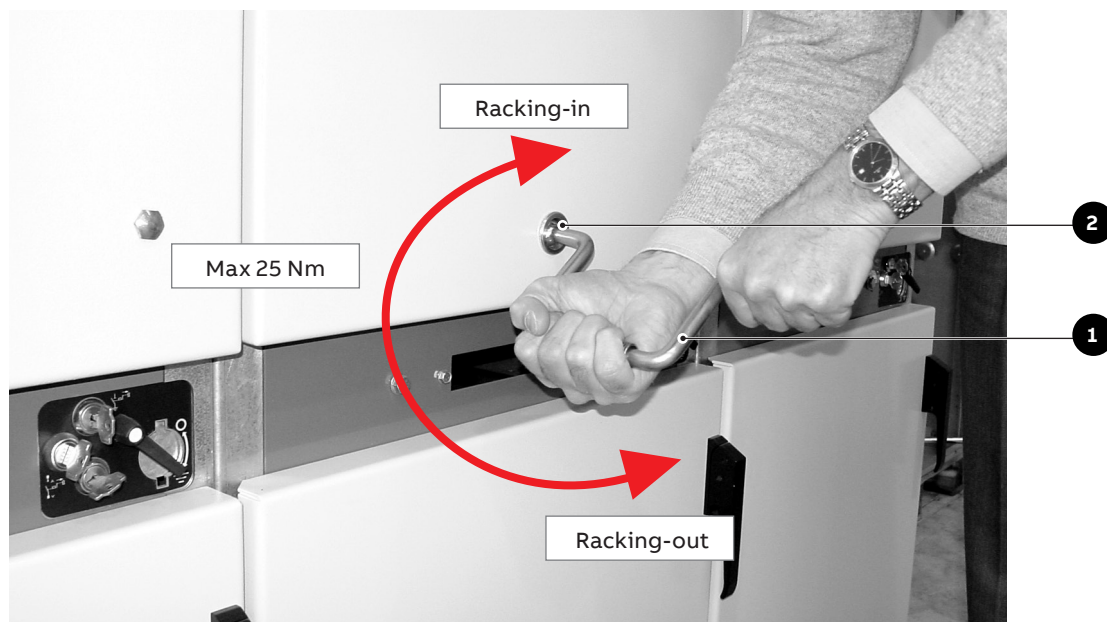

Fig. 9
For racking-in/racking-out of the switchgear, fully insert the lever (1) (fig. 9) in the appropriate seat (2) and work it clockwise for racking-in, and anti-clockwise for racking-out, until the limit switch positions are reached.
- Insert the manual racking-in lever (1) in the special coupling (2) Fig. 9, and take the motorized truck to about half its run between the isolated for test and the connected position. The torque needed to carry out truck handling is $< 25 \text{ Nm}$.
- Remove the manual lever (1) from the coupling (2) Fig. 9